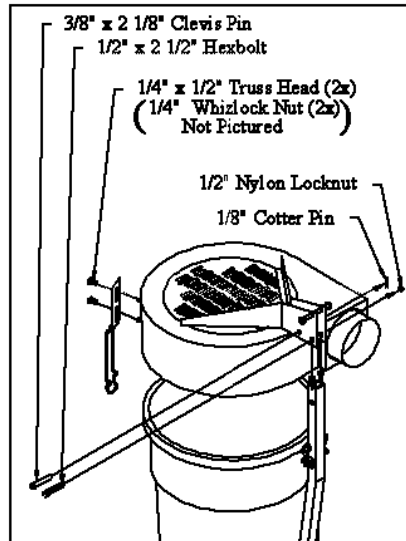

Fig. 5
5. The molded top assembly is partially assembled by the manufacturer. Attach latch (19) to molded top (18) with 1/4" x 1/2" truss head screws and 1/4" whizlock nuts. Fit filter (17) over filter support (16). Slide intake nozzle (24) thru opening in molded top with lip on inside. Set top assembly on container. Align 1/2" swivel hole on top support (14) with hole on vertical support (11). Secure with 1/2" x 2 1/2" hexbolt and 1/2" nylock nut. Tighten until slight drag is felt when pivoting molded top assembly. Grasp top assembly and pivot upward until springs (13) can be attached to upper spring retainer (on top support) and to eyebolts (on vertical support). Lower top assembly to operating position and immediately slip 3/8" x 2 1/8" clevis pin (21) thru locking pinhole. Secure with 1/8" cotter pin. Slip latch over handle of container. Tighten all bolts to vertical support bracket and vertical support in step 2. **Fig. 5**